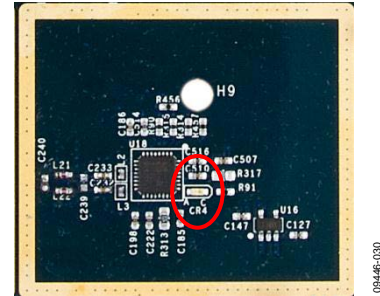

Figure 30. ADF4351 Placement
A photo of the ADF4351 placement is shown in Figure 30. The input to the ADF4351 is the 26.0 MHz output from the second ADF4002 (2) PLL. The ADF4351 has an integrated VCO and can produce outputs from 35 MHz to 4400 MHz. The primary output of the ADF4351 is routed to the Rx passive mixer (LO2); however, it is configured as an open on the printed circuit board (PCB). The auxiliary output of the ADF4351 is routed to the Tx quadrature modulator. When the ADF4351 is locked, CR4 is illuminated.